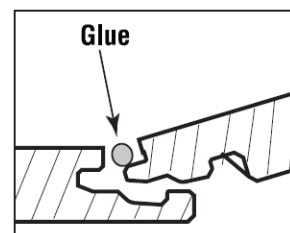

Fig. 21
2. All joints must be properly glued. Apply a thin, continuous 3/32" (2.4 cm) bead of glue to the top of the tongue **ONLY** (**Fig. 21**).